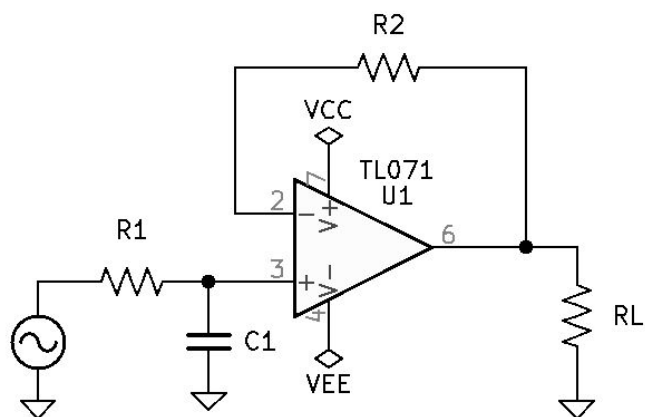

Figure 8.3: Low-Pass First-Order Active Filtering Circuit.
1. See Figure 8.3 *Low-Pass First-Order Active Filtering Circuit* on page 83.